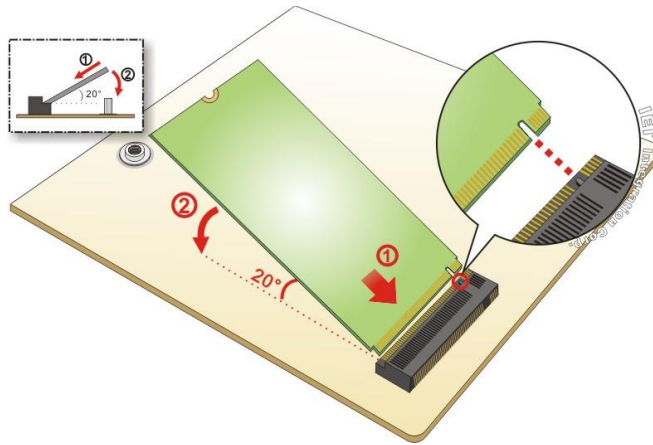

Figure 3-4: M.2 Module Installation
Step 4: Secure the M.2 module with the retention screw. Push the other end of the M.2 module down and secure the module with the previously removed retention screw (**Figure 3-4**).